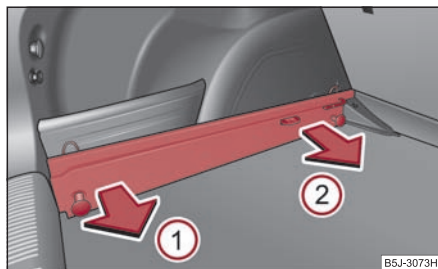

Fig. 85 Luggage compartment: Remove carrier rails
- Grasp the carrier rail (A) at the position (1) ⇒ fig. 85 and slacken it by pulling in the direction of arrow. You can take out the removable storage compartments* in order to facilitate the removal ⇒ page 87, "Removeable storage compartments in the luggage compartment*".
- Grasp the carrier rail (A) at the position (2), slacken it by pulling in the direction of arrow and take it out.